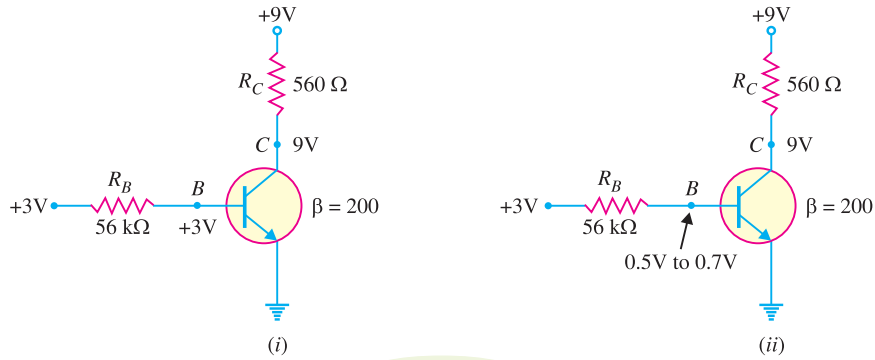

Fig. 9.14
**Example 9.11.** What fault is indicated in (i) Fig. 9.14 (i) and (ii) Fig. 9.14 (ii) ?
(i) The obvious fault in Fig. 9.14 (i) is that the **base is internally open**. It is because 3V at the base and 9V at the collector mean that transistor is in cut-off state.
(ii) The obvious fault in Fig. 9.14 (ii) is that **collector is internally open**. The voltage at the base is correct. The voltage of 9V appears at the collector because the 'open' prevents collector current.